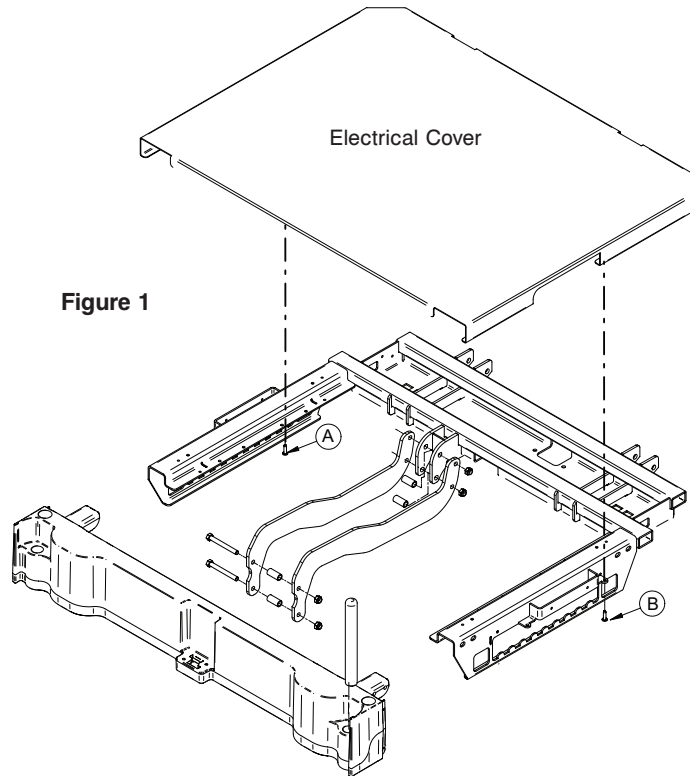

Figure 1
5. Using a Phillips screwdriver, remove the two screws securing the electrical cover and remove the cover (reference Figure 1 above, item A and B).